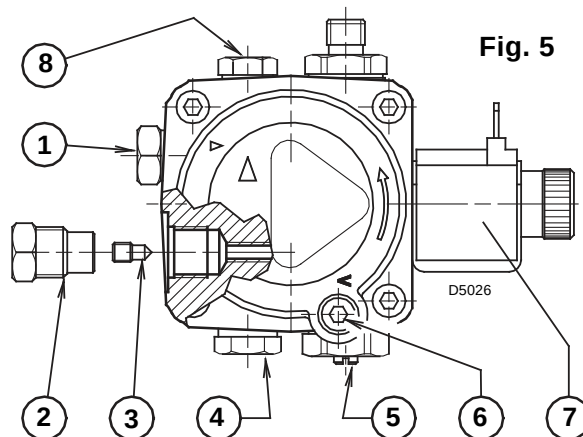
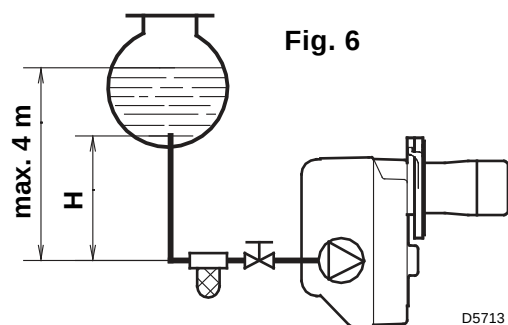

Fig. 5
Fig. 6
■ The pump is designed to allow working with two pipes. In order to obtain one pipe working it is necessary to unscrew the return plug (2), remove the by-pass screw (3) and then screw again the plug (2). (See fig. 5).
On the system in fig. 6 it is sufficient to loosen the suction gauge connection (5, fig. 5) and wait until oil flows out.